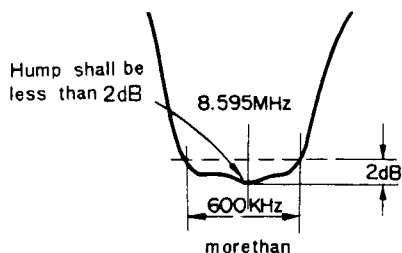

Fig. 7
- 7) Obtain such characteristic as shown in Fig. 7 by adjusting T6 (blue), T7 (black) and T8 (blue).